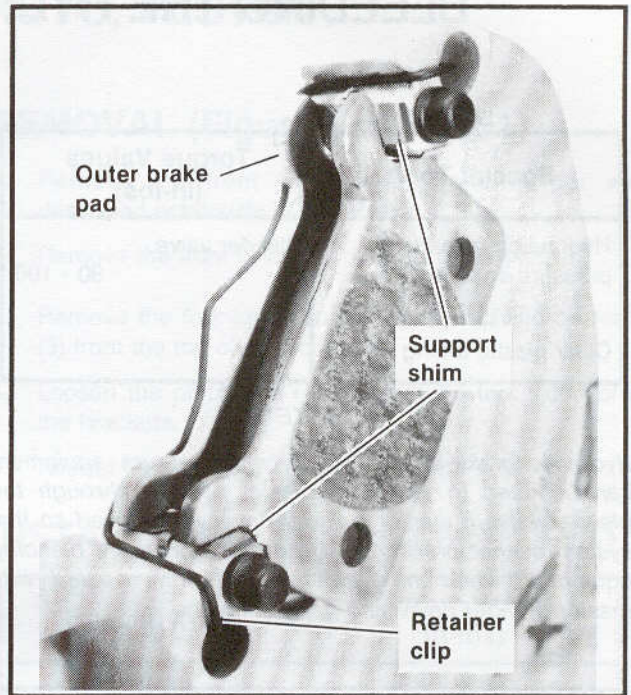

Figure 2-47. Retainer Clip Installation
2. See Figures 2-47, 2-48. Remove the fork tube cap (1) from the top of one fork side.
3. Remove the drain screw (9) from the bottom of the fork and drain the fork oil. Don't lose packing washer (10).